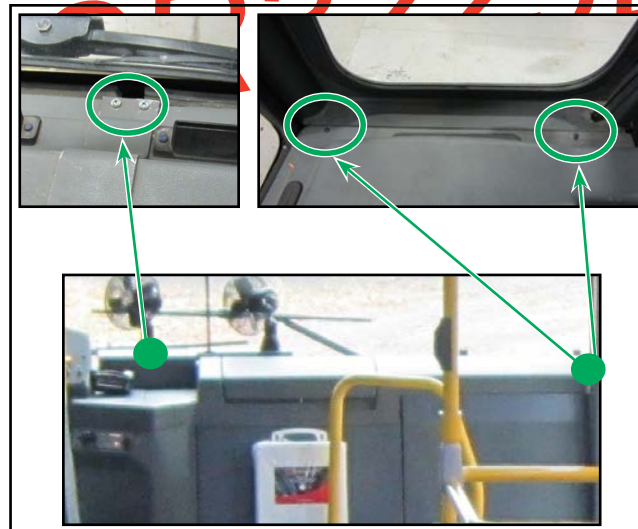

Figure 2 - Location of the Top Panels Screws (4x)
1.3. Remove the four screws retaining the top dashboard panels. See Figure 2. Retain the hardware.